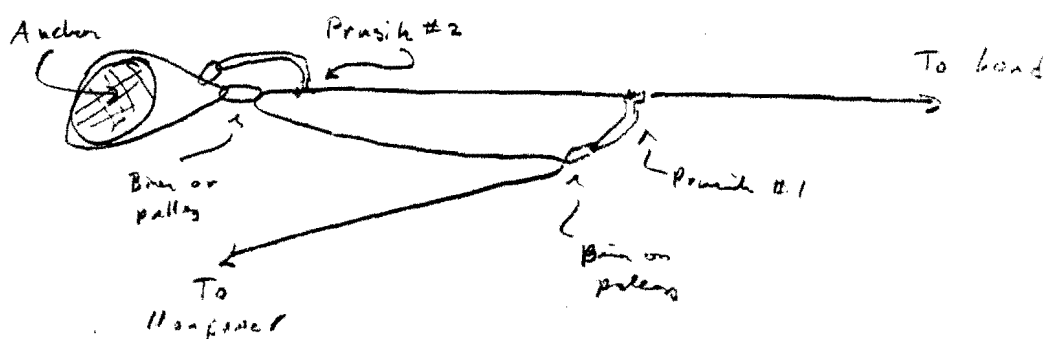
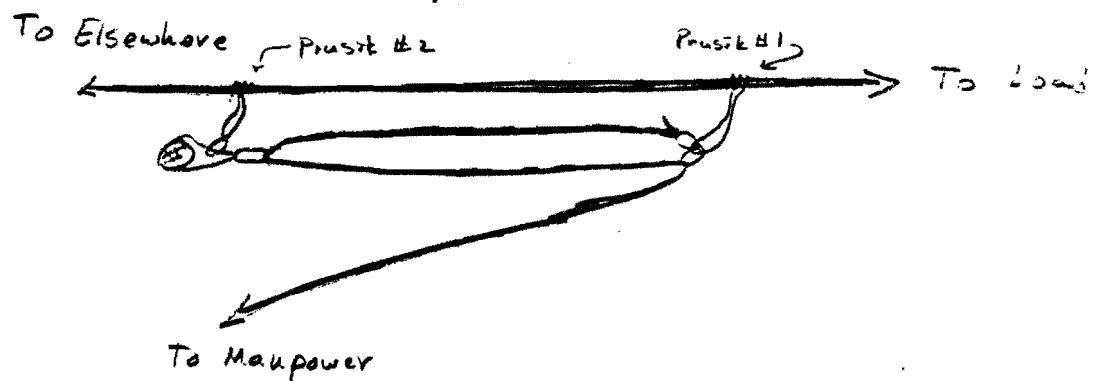

Figure 7.1. The Z Hauling System
Figure 7.2 Snap-On Z Hauling System.
A 3:1 mechanical advantage can be achieved on a haul line by the use of the Z System, illustrated in Figure 7.1. The Z is very useful for raising litters, tightening Tyrolean Traverses, and hauling equipment.
5) Sometimes it is necessary to add hauling force to a rope which is already in tension and cannot be bent into the configuration shown in figure 7.1. In such a case, a Z system made from another rope can be added on as shown in figure 7.2. This
configuration is sometimes called a "snap-on Z," as opposed to the configuration of figure 7.1, which is called a "conversion Z."